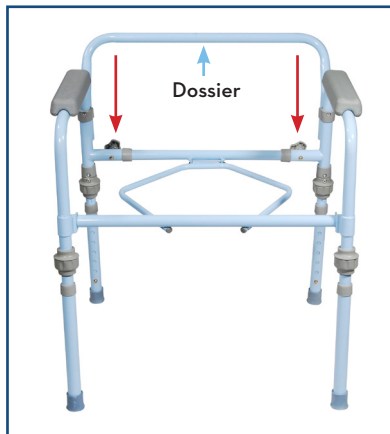

figure 7
- Attach the backrest by depressing both push pins and sliding the back support into the frame receptacle (figure 7).